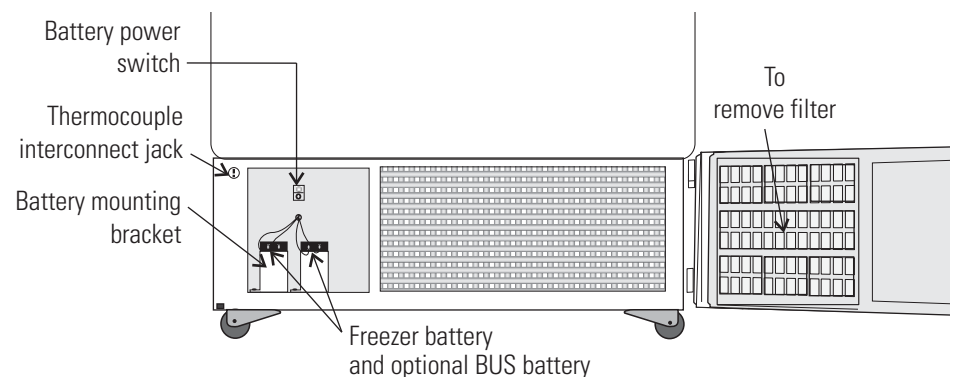

Figure 4-1. Battery Location
2. Locate the grille on the door. See Figure 4-1. Grasp the middle of the filter material behind the grille and gently pull out to remove.
1. Open the front lower door by grasping the bottom left corner. See Figure 4-1.
3. Turn off the battery switch (O). See Figure 4-1.
9. Turn the battery power switch to Standby mode (U).